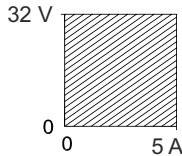

Fig. 3 Output ranges
**PSD3205X-2** can either be used as a constant voltage source with current limiting or as a constant current source with voltage limiting. The change of mode occurs sharply at the crossing of the voltage and current settings. Fig. 3 shows the output ranges.